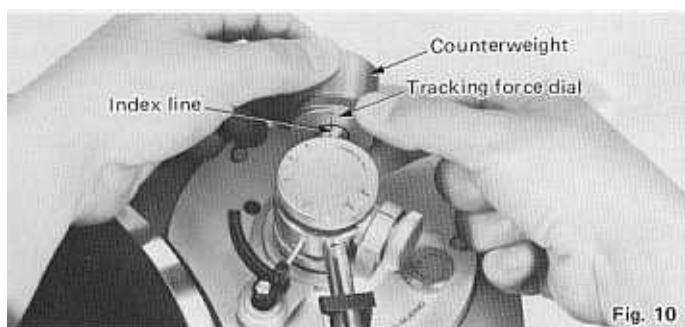

Fig. 10
9. Hold the counterweight at the adjusted position and turn the tracking force dial until the "0" mark is aligned with the index line on the tonearm weight shaft. (See Fig. 10)